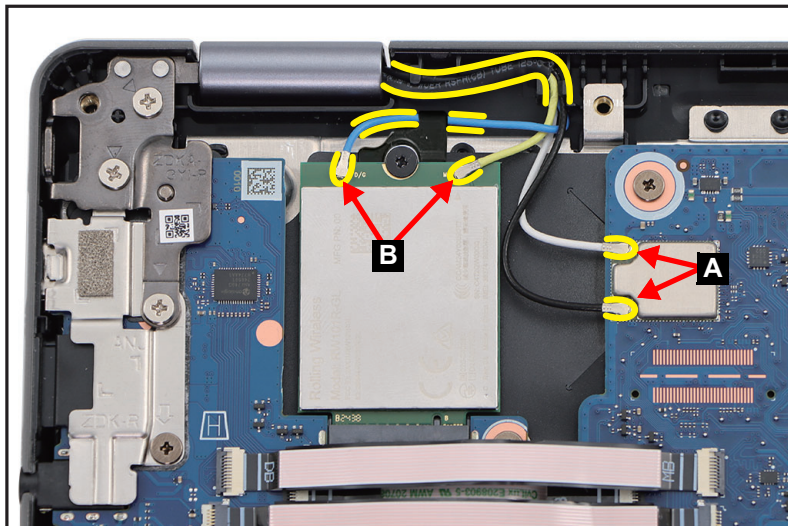

Figure 1-18. LCD Module Removal
1. Disconnect the WLAN antennas cables from the WLAN module connectors (A) (Figure 1-18).
2. Disconnect the LTE antennas cables from the LTE module connectors (B). Then unroute the antennas cables from the cable guides as shown in Figure 1-18.